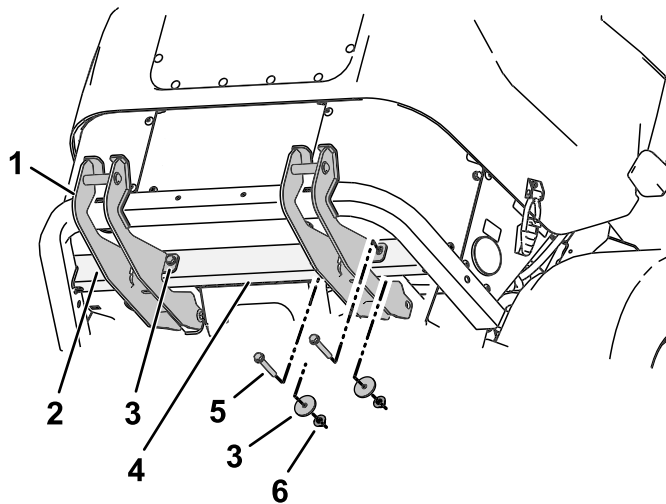

Figure 12
1. Loosely install a lower mount bracket on the left and right side of the rear bumper cross tube (Figure 12).
2. Align the mounting holes and loosely install the brackets using 2 bolts (3/8 x 2-1/2 inches), 2 thick washers, and 2 locknuts (3/8 inch) as shown in Figure 12.
Note: You do not install a thick washer on the left, outer side (Figure 12).